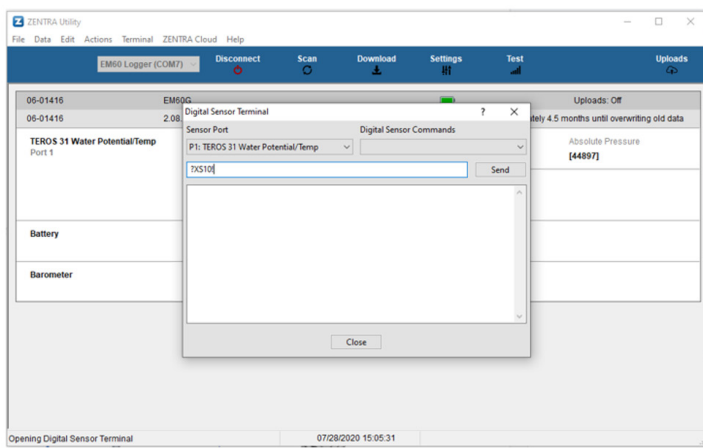

Figure 17 Send shaft length command to TEROS 31
4. Select the required sensor port and send the shaft length command `?XS<value>!` (replace `<value>` with the shaft length between 0 and 20 cm) (Figure 17).